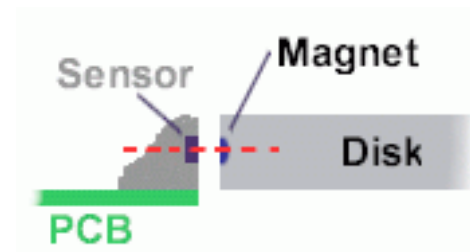

Figure 6 Ensure correct alignment of magnet disk and sensor.
- First bring the pistons 1+4 into TDC position and rotate the disk into the position as shown on the picture (1). The left hall sensor should be between the two magnets in the disk.
- Take care that the magnets in the disk are approximately in the same height as the sensor, see figure 6.